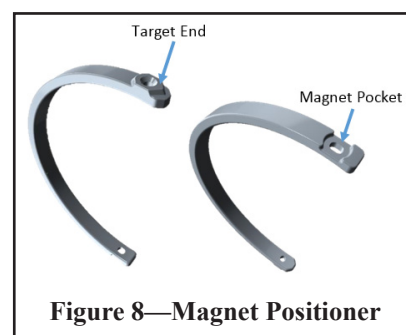

Figure 8—Magnet Positioner
3. The magnet positioner has two unique ends, see Figure 8. The first end is the target end that will point to the desired set point level, and the second end has a pocket for the magnet to set into.